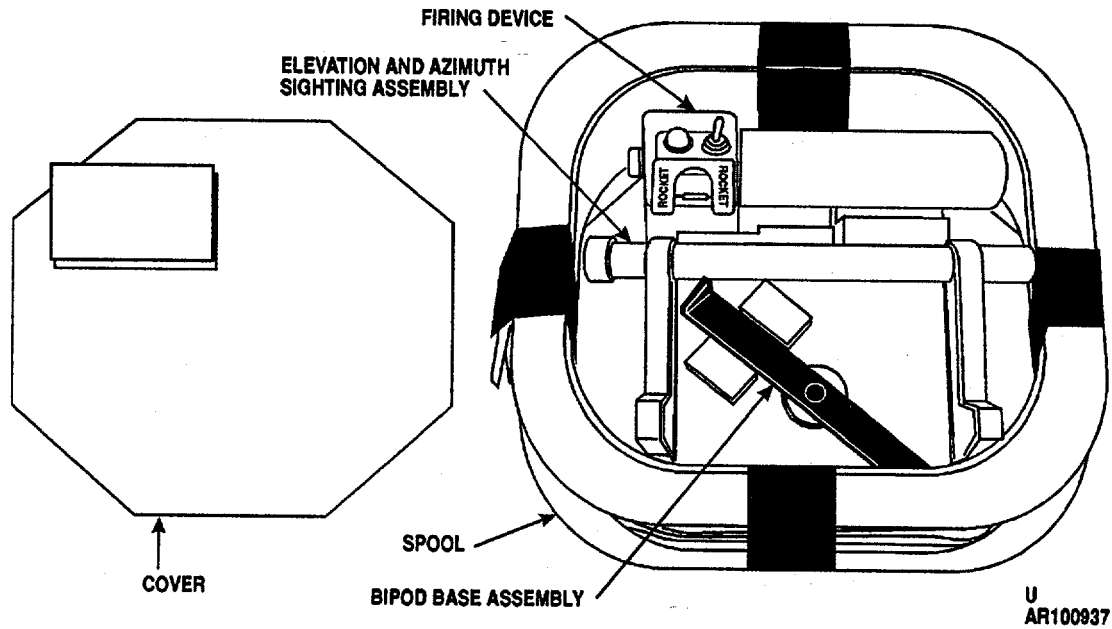
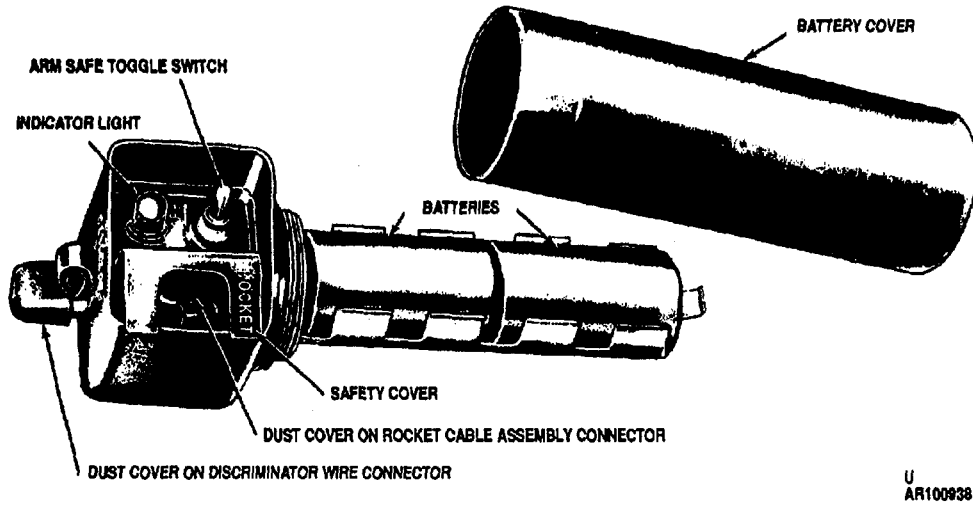

Figure 2-59. Discrimination spool with accessories compartment cover removed (mine M24).
Figure 2-60. Demolition firing device M61.
- (5) Open accessories pouch and remove discriminator spool. Untape top accessories cover and remove firing device and ancillary items from spool (fig. 2-59). Retain all accessories for reuse.
- (6) Remove battery cover from firing device and correctly position two fresh batteries
- in firing device after determining that terminal points are clean (fig. 2-60). Battery polarity must be observed.
- (7) Replace battery cover.